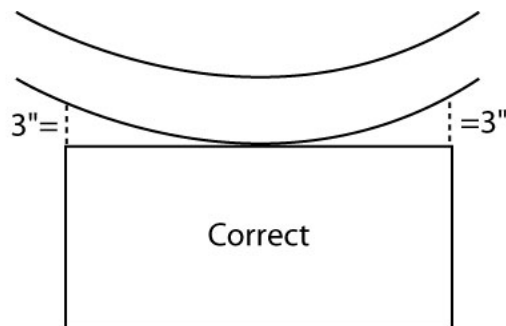

Fig. 3
1. Position placeholder shelves on the floor along the curved wall to establish each section. Ensure the center back of each shelf is well-marked and positioned with the back ends of each shelf equidistant from the curved wall (Figs. 3 and 4).